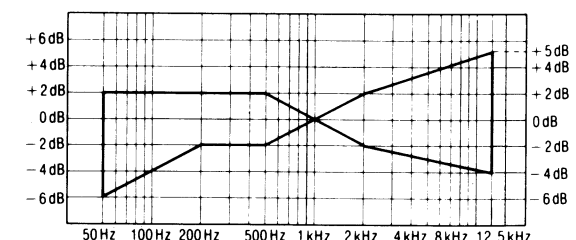

Fig. 10
8. Assure that the level is within the range shown in Fig. 10.